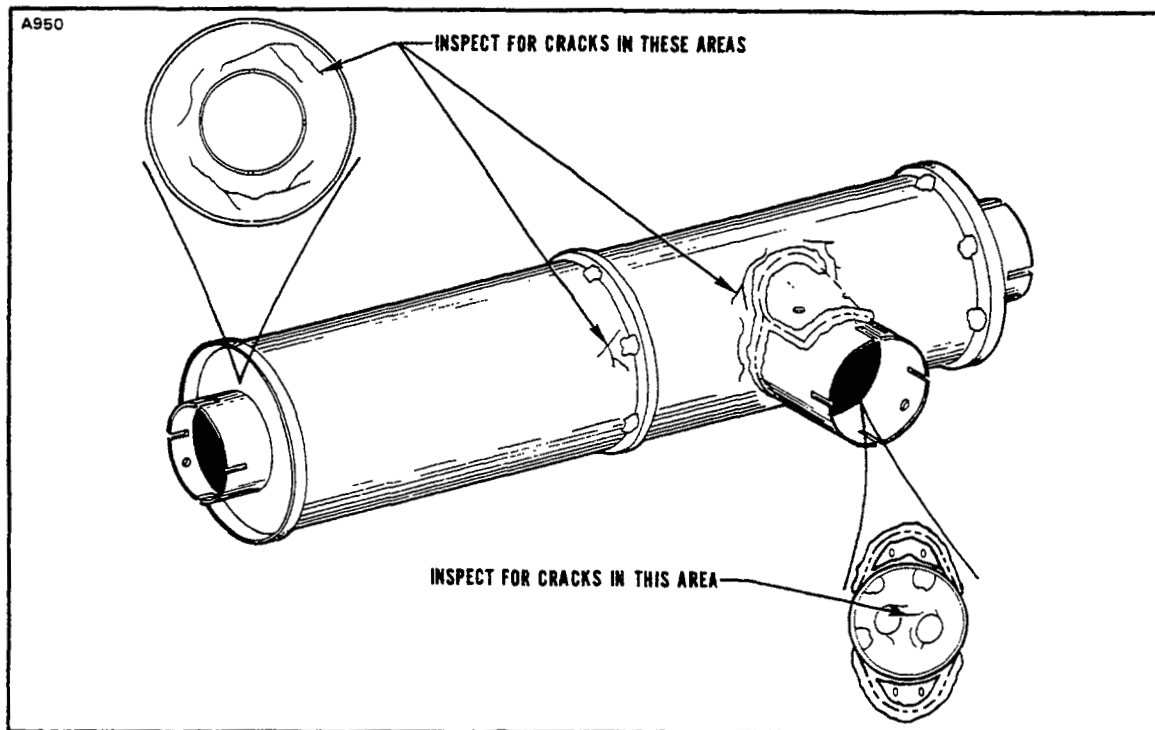

Figure 3-1. Typical Muffler Fatigue Areas
- 3-9. **INSPECTION OF EXHAUST SYSTEM.** (Refer to Figure 3-1 thru 3-3.) The entire exhaust system, including heat exchange shroud, muffler, muffler baffles, stacks and all exhaust connections must be rigidly inspected at each 100 hour inspection. The possibility of exhaust system failure increases with use. It is recommended that the system be checked more carefully as the number of hours increase, therefore inspection at the 700 hour period, that the exhaust system has been in use would be more critical than ones in the 100 hour period. The system should also be checked carefully before winter operation when the cabin heat will be in use.